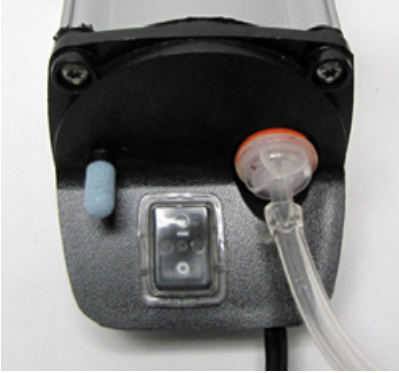

Fig. 33—Connect to the pump
1. Press the large tubing over the nipple on the pump. Press the other end over the large connector on the waste reservoir (**Fig. 33**).